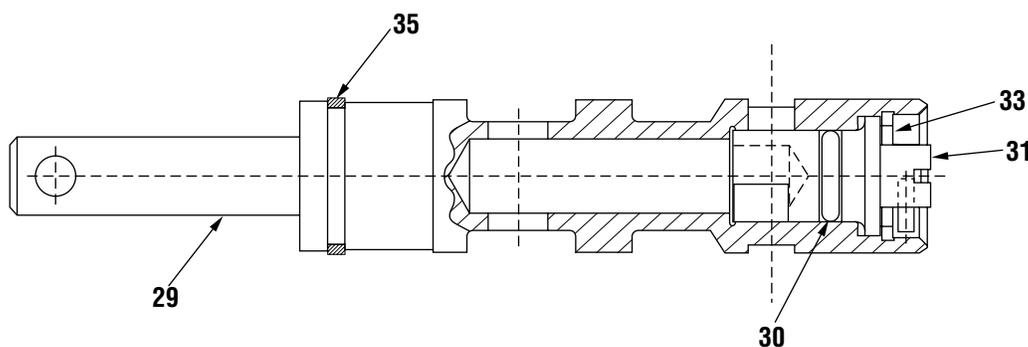

Figure 4
(See Figures 4 and 7)
48330/48329 prior to S/N 300 (See Figures 4 and 7)
1. Install O-ring (34) (O-ring (30) prior to S/N 300) on open-center/closed-center spool (31). Install ball (32) in trigger spool (29) cavity. (No ball (32) prior to S/N 300.) Install open-center/closed-center spool (31) into trigger spool (29). Secure with snap-ring (33).
2. Install O-ring (35) onto trigger spool assembly. Replace O-ring (27) and back-up ring (28) in handle (1).
3. Slide trigger spool assembly as shown in Figure 4 or 8 into handle (1) from trigger side of tool.